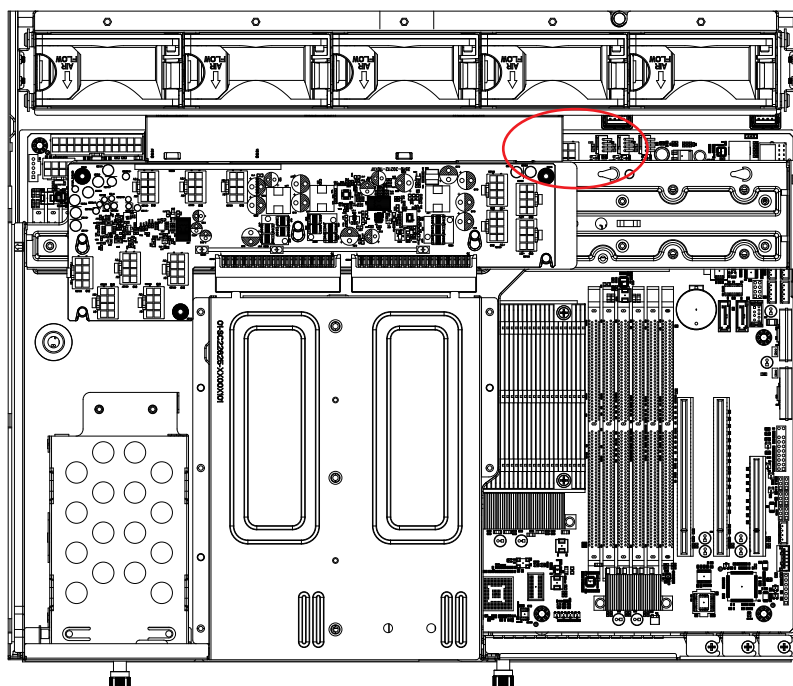

Figure 3-13. Unplugging the Power Cable
3. Place the smaller air shrouds. (Figure 3-13) Align the mounting holes in the air shroud with those in the chassis and secure them with the three screws provided with the air shroud.